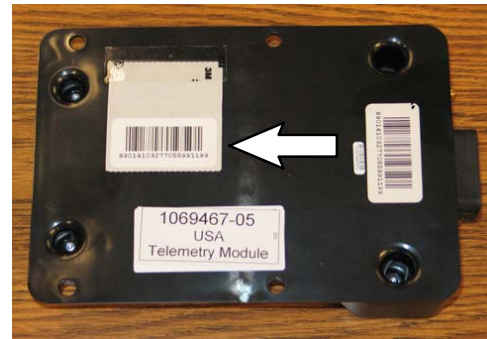

Fig. 4
1. Remove the additional SIM bar code label from the back of the telemetry control box and set aside in a safe place. The number on the SIM label will be needed for activating the IRIS system. (Fig. 4)